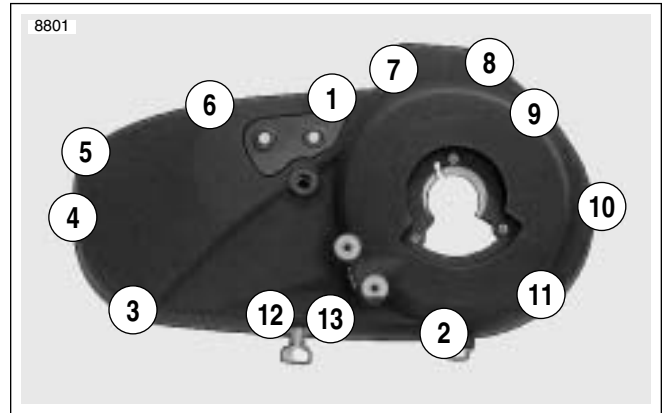

Figure 6-5. Primary Cover Tightening Sequence
4. See Figure 6-5. Tighten fasteners to 100-120 **in-lbs** (11.3-13.5 Nm) in sequence shown.